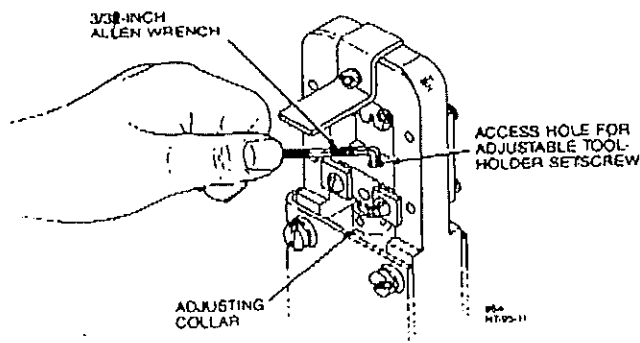

Figure 9
1. Insert the 3/32-inch Allen wrench through the access hole in the adjustable tool holder and into the socket-head setscrew (see figure 9). Then turn the setscrew 1/4-turn counterclockwise to unlock the adjusting collar.